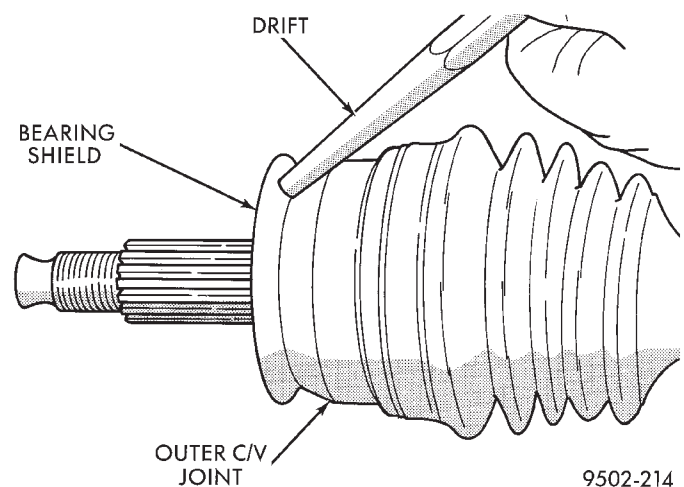

Fig. 51 Removing Bearing Shield from Outer C/V Joint
- (1) Clamp driveshaft in a vise by the interconnecting shaft.
- (2) Using a drift (Fig. 51) tap around the entire edge of the bearing shield until it is removed from the outer C/V Joint.